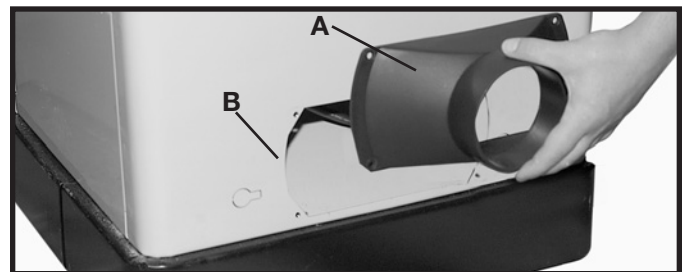

Fig. 38
The Unisaw is supplied with a dust chute connector to provide a means of connecting a 4" diameter dust collector hose to the machine. Align the four holes in the dust chute adapter (A) Fig. 38, with the four holes in the back of the motor cabinet (B) and attach the dust chute adapter with four #10 x 1/2" sheet metal screws. **NOTE: DO NOT MOUNT THE DUST CHUTE ADAPTER UNLESS A DUST COLLECTION SYSTEM IS USED IN CONJUNCTION WITH THE SAW, AS THE DUST CHUTE ADAPTER WILL RESTRICT THE GRAVITY FEED OPENING FOR SAW DUST REMOVAL.**